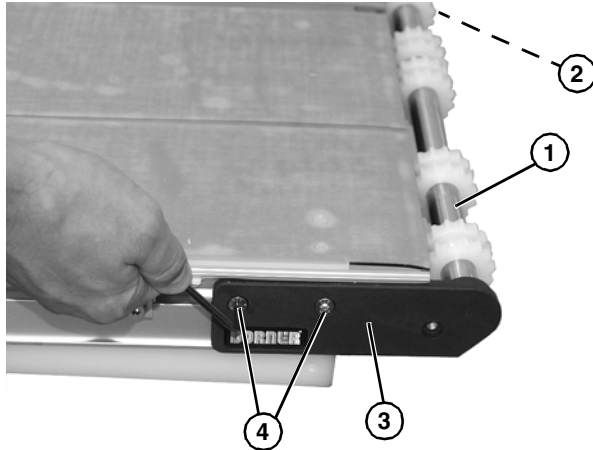

Figure 56
1. Install drive spindle (Figure 56, item 1) into head plate (Figure 56, item 2). Install head plate (Figure 56, item 3) and install screws (Figure 56, item 4).